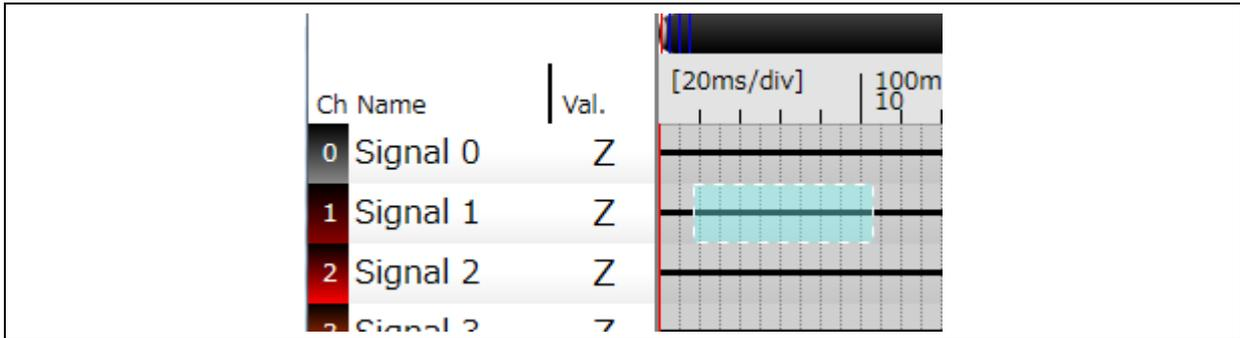

Figure 22
- 1) Select Paste, and the area from which waveform data is to be pasted (the paste area) will be enclosed by a dotted line (light blue area in Figure 22).